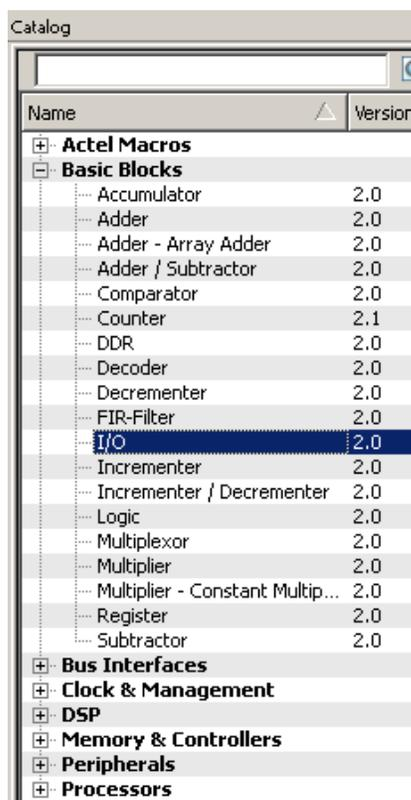

Figure 13-2 • SmartGen Catalog
2. On the left-hand side of the Catalog View, select **I/O**, as shown in Figure 13-2.